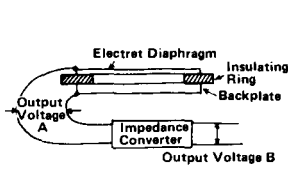

FIGURE 2A-Condenser
**Condenser Generating Elements.** The diaphragm of a condenser microphone is a movable plate of a condenser (capacitor), a common component in electrical circuits (Figure 2A). When polarized by applying a direct current voltage, motion of a diaphragm in relation to a fixed backplate produces an output voltage. The extremely high impedance of the condenser generating element is matched to typical inputs by an impedance converter in the microphone. Condenser microphones, many of which are capable of very wide frequency response, have been widely used in recording studios for years. For the performer, due to their relatively high output level, condensers may produce input overload distortion (distortion caused by too great an input signal to a mixer) unless appropriate precautions are taken.